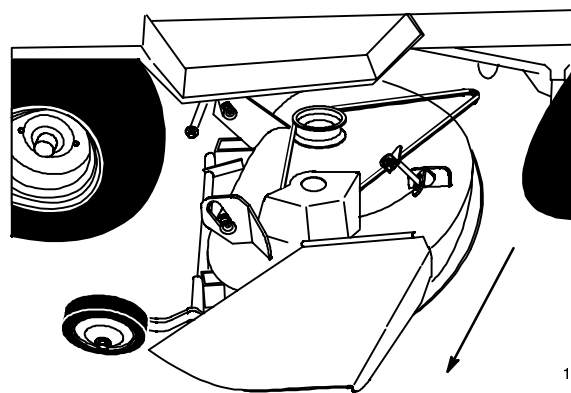

Figure 16
8. Turn the front wheels fully to the left and raise attachment lift lever all the way to the latched position; refer to tractor Operator's Manual. Slide the mower out from under the chassis to the the right side (Fig. 16)